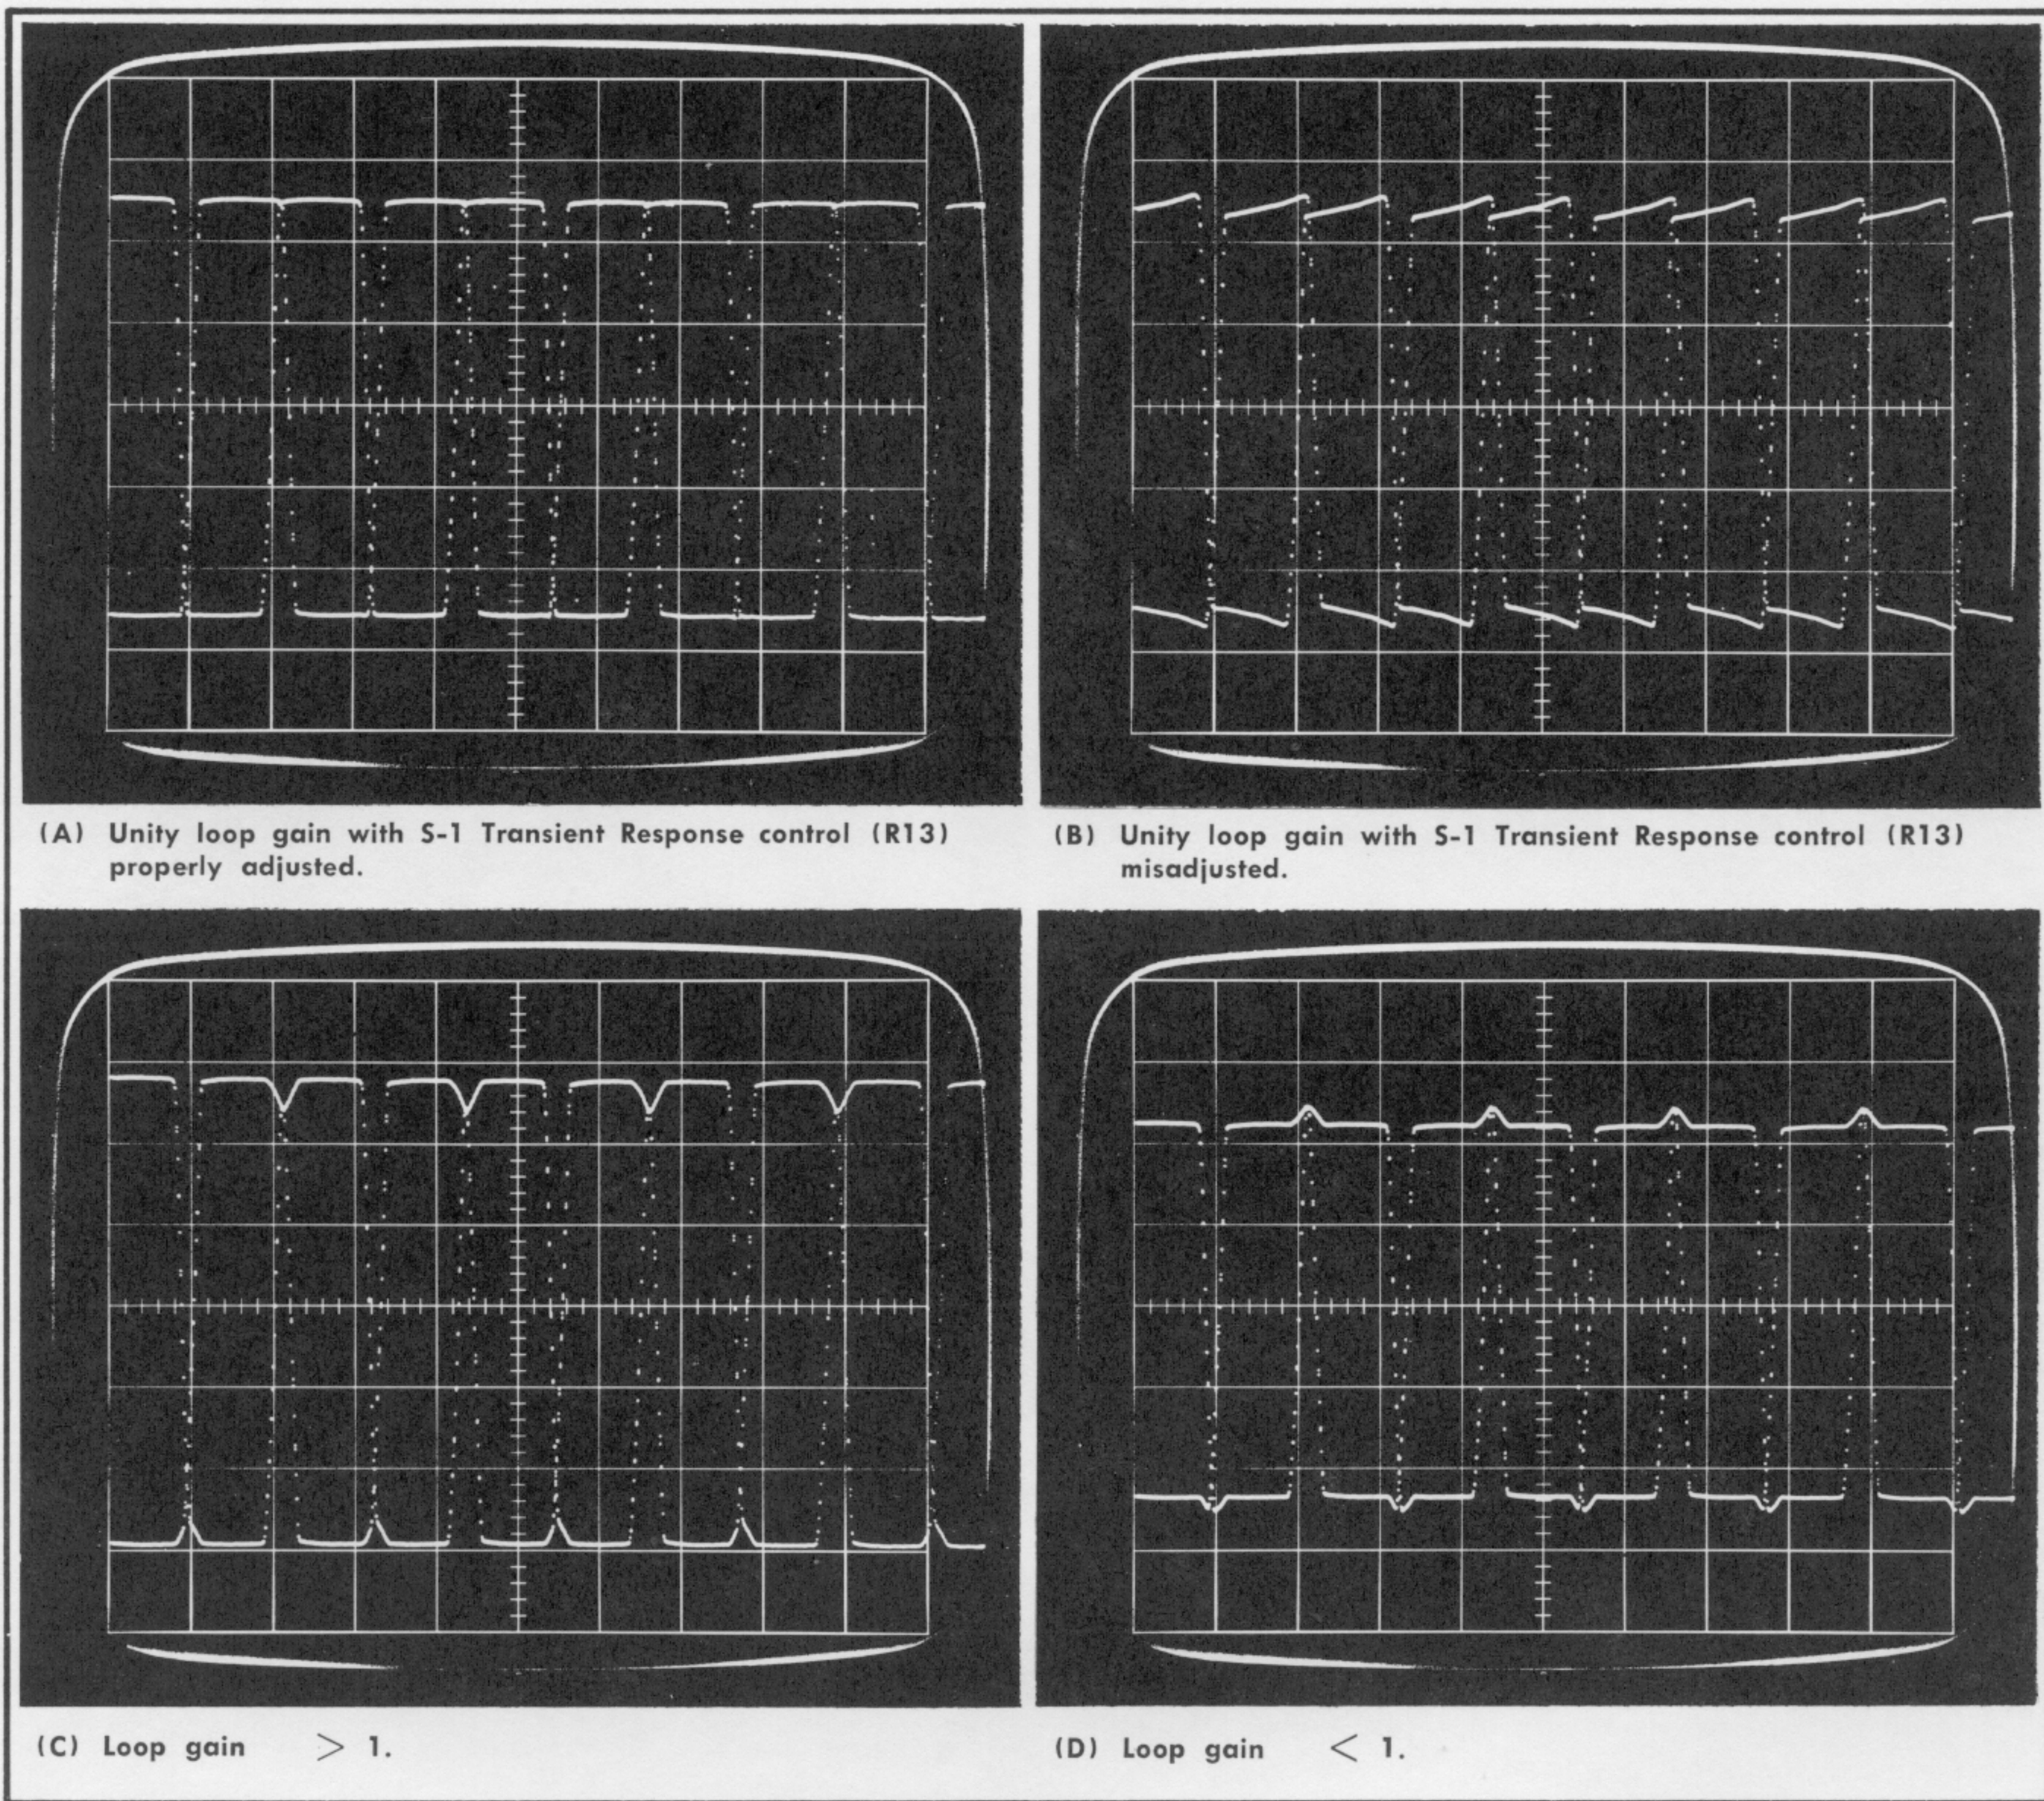

Fig. 7-5. Type 3S5/S-1 waveforms, 1  $\mu$ s period square wave, sampling sweep double triggered at 500 ns/div.
b. Set the sampling sweep unit for 500 ns/div (0.5 μs/div). Obtain a double-triggered display on the indicator oscilloscope by free running the time based and adjusting the Recovery Time control. The display should be similar to any one in Fig. 7-5.
e. Adjust the sampling sweep unit Trigger Sensitivity and Recovery Time controls for a double-triggered indicator oscilloscope display similar to any in Fig. 7-5. The test oscilloscope display should be similar to the waveform shown in Fig. 7-8A when the sampling head is a Type S-1 and similar to Fig. 7-8B or C if the sampling head is a Type S-2. (It is recommended that a Type S-1 be used if available).